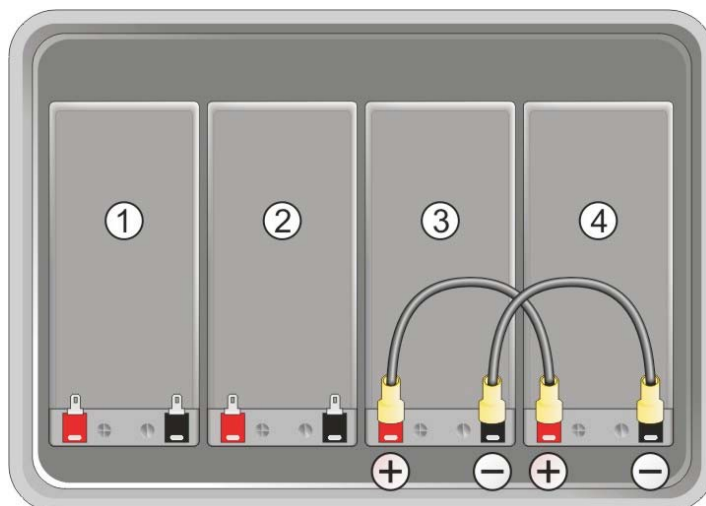

Figure 6-8:
9. Attach another jumper wire between the negative (-) terminal of battery #3 to the negative (-) terminal of battery #4, as illustrated in Figure 6-8.